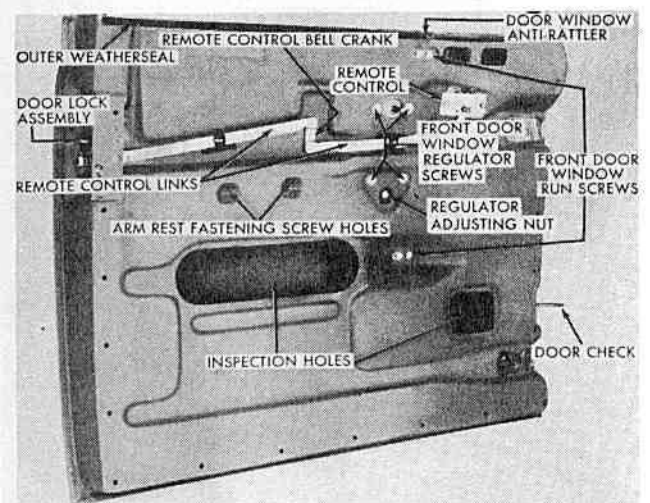

FIG. 21.—INNER FRONT DOOR PANEL
**DOOR WINDOW FRONT RUN** To remove the front run, remove the four screws and star washers which hold the run in the door panel (see Fig. 21).